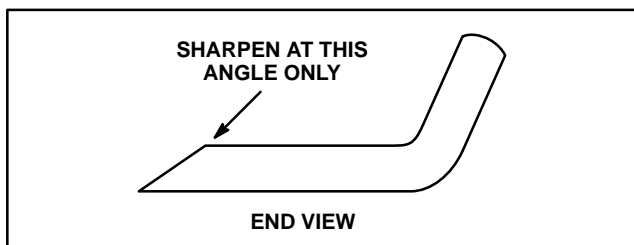

Figure 26
5. Inspect cutting edges of all blades. Sharpen the cutting edges if they are dull or nicked. Sharpen only the top of the cutting edge and maintain the original cutting angle for best performance (Fig. 26). Make sure blade is balanced after sharpening.